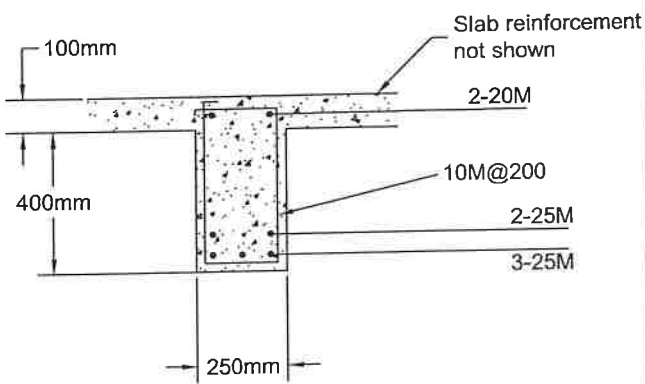

FIGURE B1
- B1. The Tee section shown in Figure B1 is part of an interior one-way simply supported system determine the ultimate moment and shear resistance of the section. Assuming the beams are spaced at 1250mm o.c., and are made of 30MPa concrete.